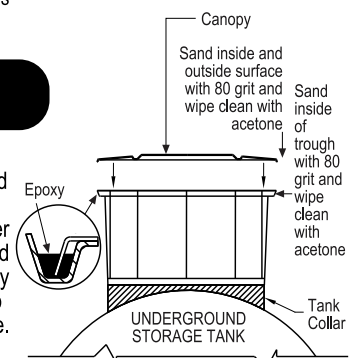

FIGURE 6
A. To install the canopy using an epoxy bonding kit, mix the epoxy per the labeled instructions and pour the epoxy into the trough area of the sump base. Then, lower the transitional canopy into the epoxy filled trough (Figure 6). Make sure that the epoxy covers the entire seam. Wait for epoxy to harden. Cure time depends on temperature. Proceed to Step ⑧.